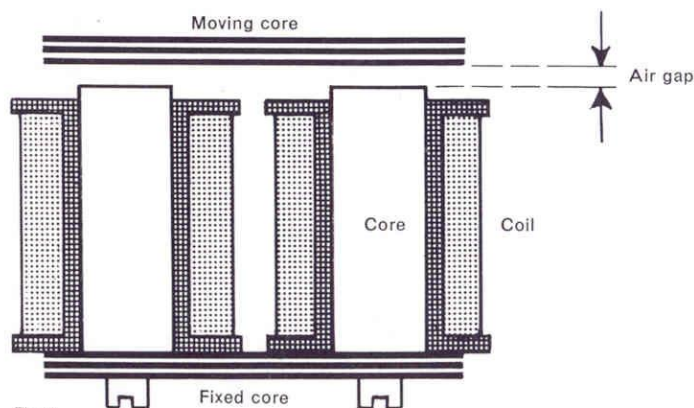

Fig. 2
If you see in the illustrations a combination of figures such as 5(6) it means that 6 of part 5 are to be used. Similarly the figures 2(3) indicate that 3 of part 2 are to be used.
Electro-magnets (so far as our models are concerned) can be single or double. In the case of a double magnet, the two cores are connected at one end by Meccano Strips, which form a yoke, or magnetic path, and their other free ends form the 'North' and 'South' poles. They can be used to produce a mechanical motion by means of a moving core (see Fig. 2).